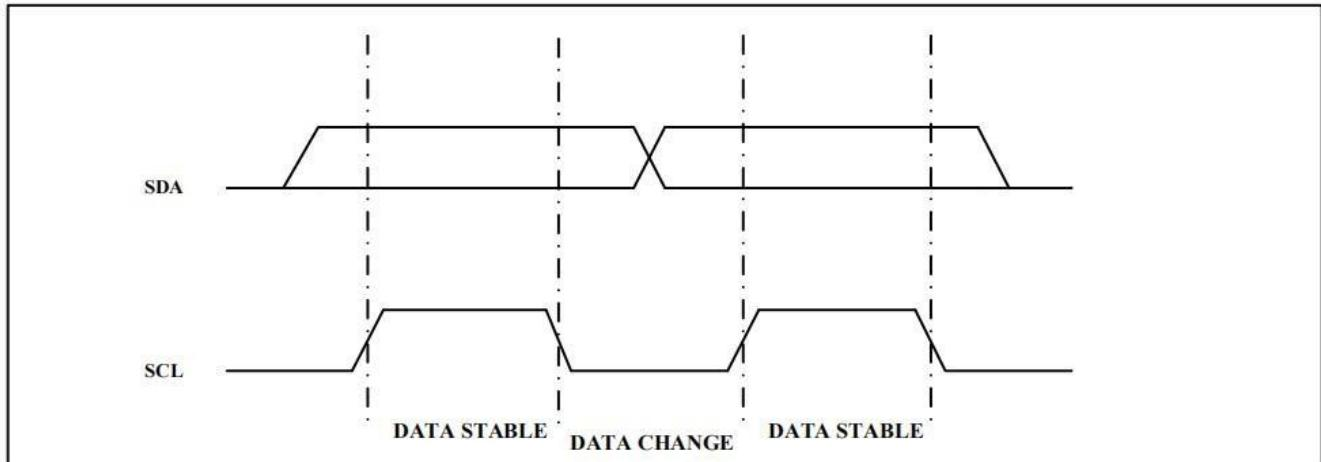

Figure 2. Data Validity
**CLOCK and DATA TRANSITIONS:** The SDA pin is normally pulled high with an external device. Data on the SDA pin may change only during SCL low time periods (see **Figure 2**). Data changes during SCL high periods will indicate a start or stop condition as defined below.